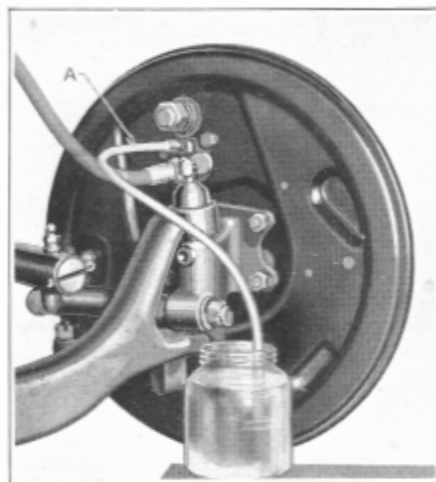
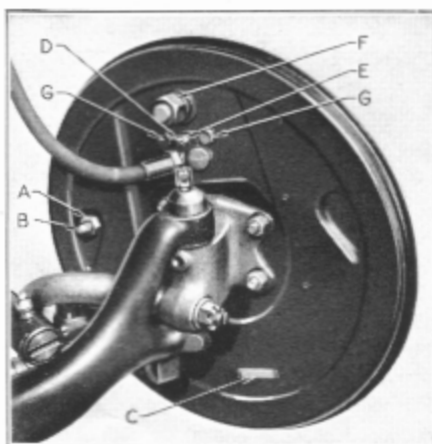

Figure 25
Figure 26
1. Remove screw (D), Figure 26, and screw the end of the bleeder tube (A), Figure 25, in its place and allow end of tube to hang in a jar partially filled with liquid.
2. Unscrew bleeder valve (E), Figure 26, three-quarters of a turn.
4. Close bleeder valve (E), remove bleeder hose, and replace screw (D), Figure 26.
There are only two points of adjustment in the braking system to compensate for brake lining wear. The *Eccentric Adjustment* (B), Figure 26, centralizes the brake shoes in the drum. The *Adjusting Screw*, accessible by removing cover (C), Figure 26, takes up the clearances between the lining surfaces and the brake drums.
(1) Jack up all wheels clear of the floor.
(2) Disconnect rear wheel cables from equalizer bar cable plate.
(3) After removing adjusting hole cover (C), Figure 26, and gauge hole covers in brake drums, **AT EACH WHEEL**: loosen eccentric lock nut (A), Figure 26, and insert .010" feeler gauge between the lining of secondary (eccentrically controlled) shoe and brake drum. Turn the eccentric adjustment in the direction of forward wheel revolution until .010" feeler is just snug at anchor and adjusting ends of secondary shoe. Tighten eccentric lock nut.